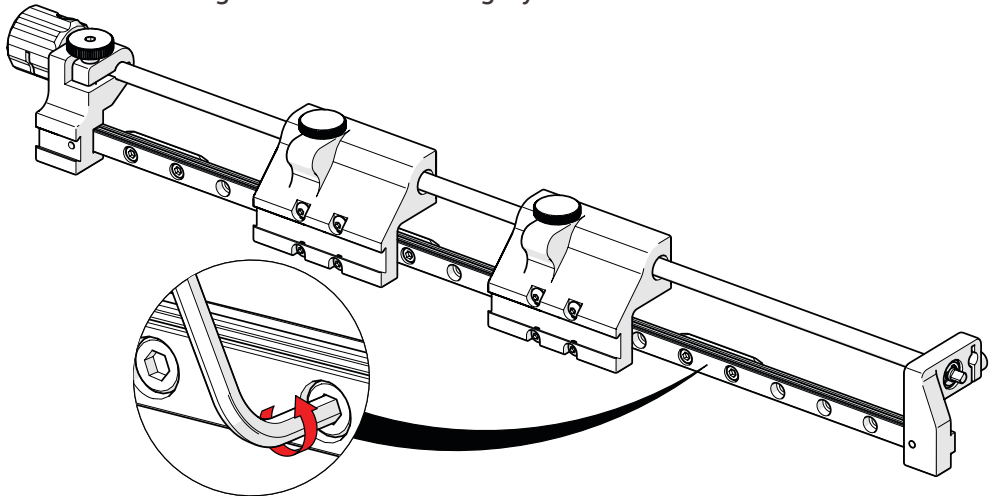

Fig. 60 - Slightly loosen all dovetail nuts
1. To install the PPS to a frame bar, ensure all the dovetail nuts are loose (*Fig. 60*) using a 2.5 mm hex wrench (*Fig. 5*).